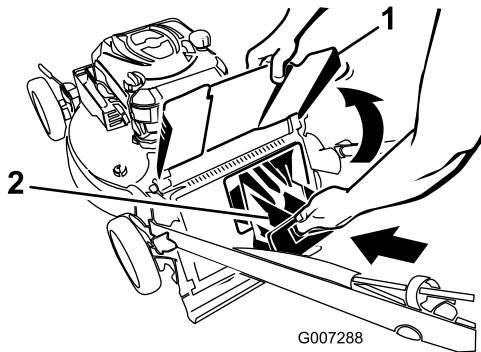

Figure 26
**Important:** Ensure that the rear-discharge plug is locked in place. To lock the plug: Raise the rear-discharge deflector (Figure 26), firmly push the plug in until it snaps into place behind the tabs, and rotate the lever on the plug to the left (Figure 25).